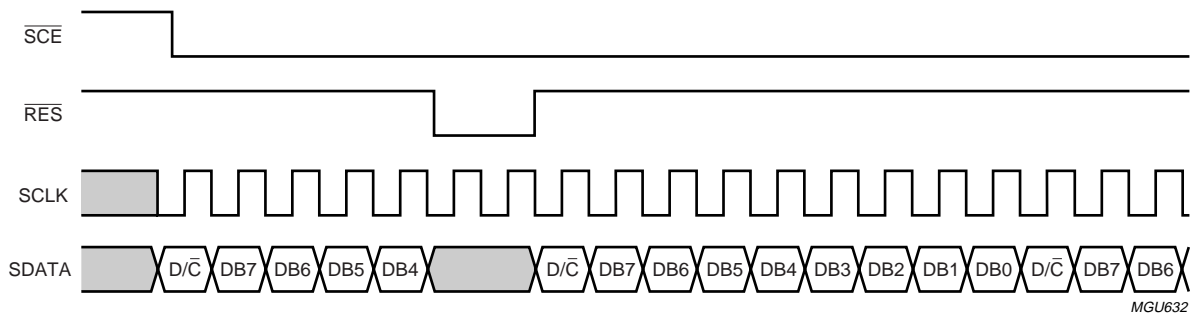

Fig.23 Serial interface (3-line), write mode - interrupted by reset (\overline{RES}).
- A reset pulse with \overline{RES} interrupts the transmission and the data being written into the RAM may be corrupted. The registers are cleared. If \overline{SCE} is LOW after the rising edge of \overline{RES} , the serial interface is ready to receive the D/\overline{C} -bit of a command/data byte (see Fig.23).